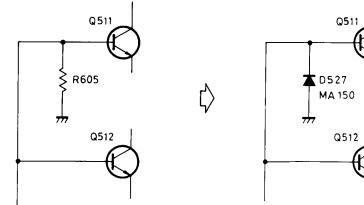

Fig. 4
d. Resistor R605 connected to both bases of Q511 and Q512 on the level indicator circuit has been replaced by diode MA150 (symbol number D527). (Fig. 4)